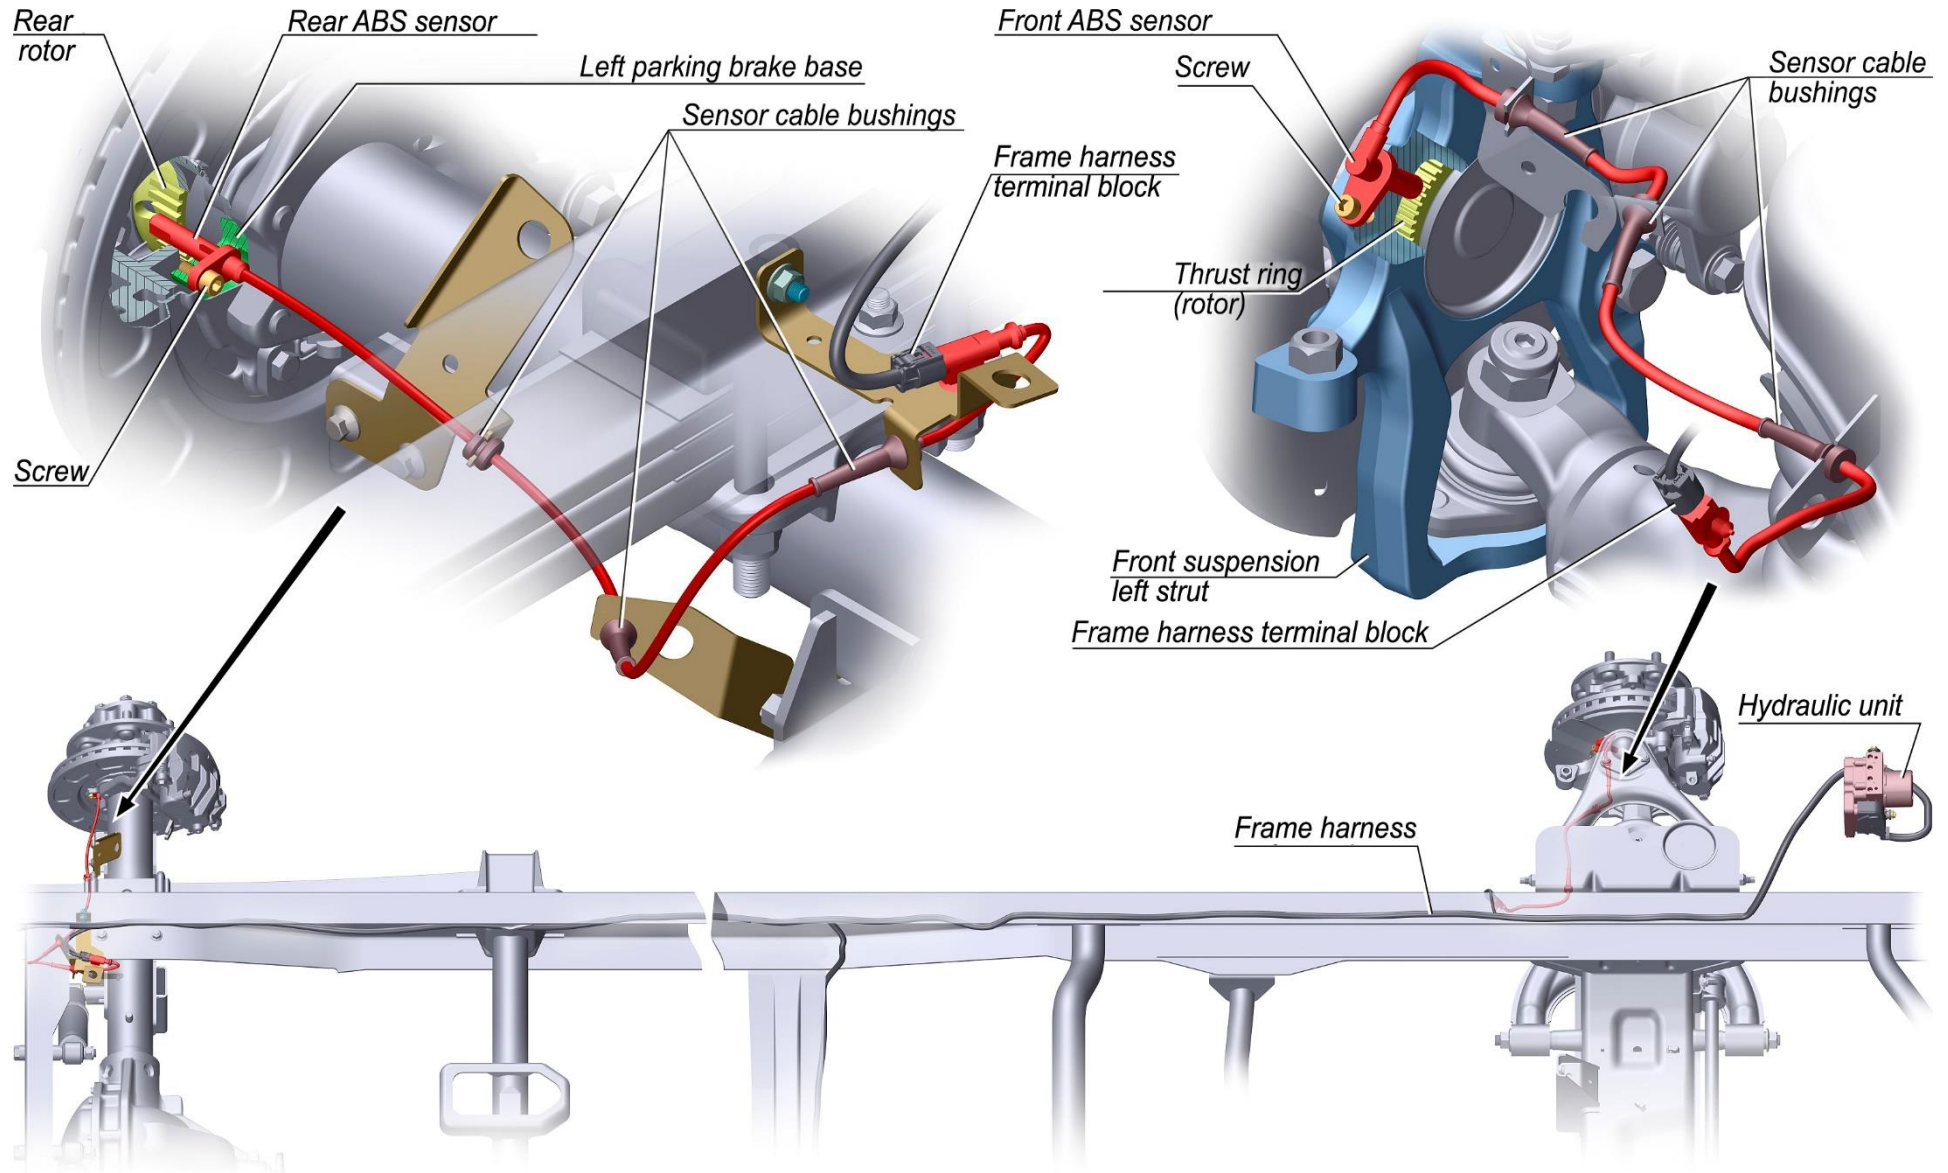

Fig. 7.70. Installation of ABS sensors (Image for vehicle right side is mirror image of this figure)
P.S. In case of unsuccessful test completion, the message in accordance with Fig. 7.70 is not displayed. In this case, repeat the procedure for bleeding the corresponding wheel. Further, if necessary, ABS malfunctions should be checked and eliminated.
- disconnect the frame harness block and the sensor block (see Fig. 7.70);